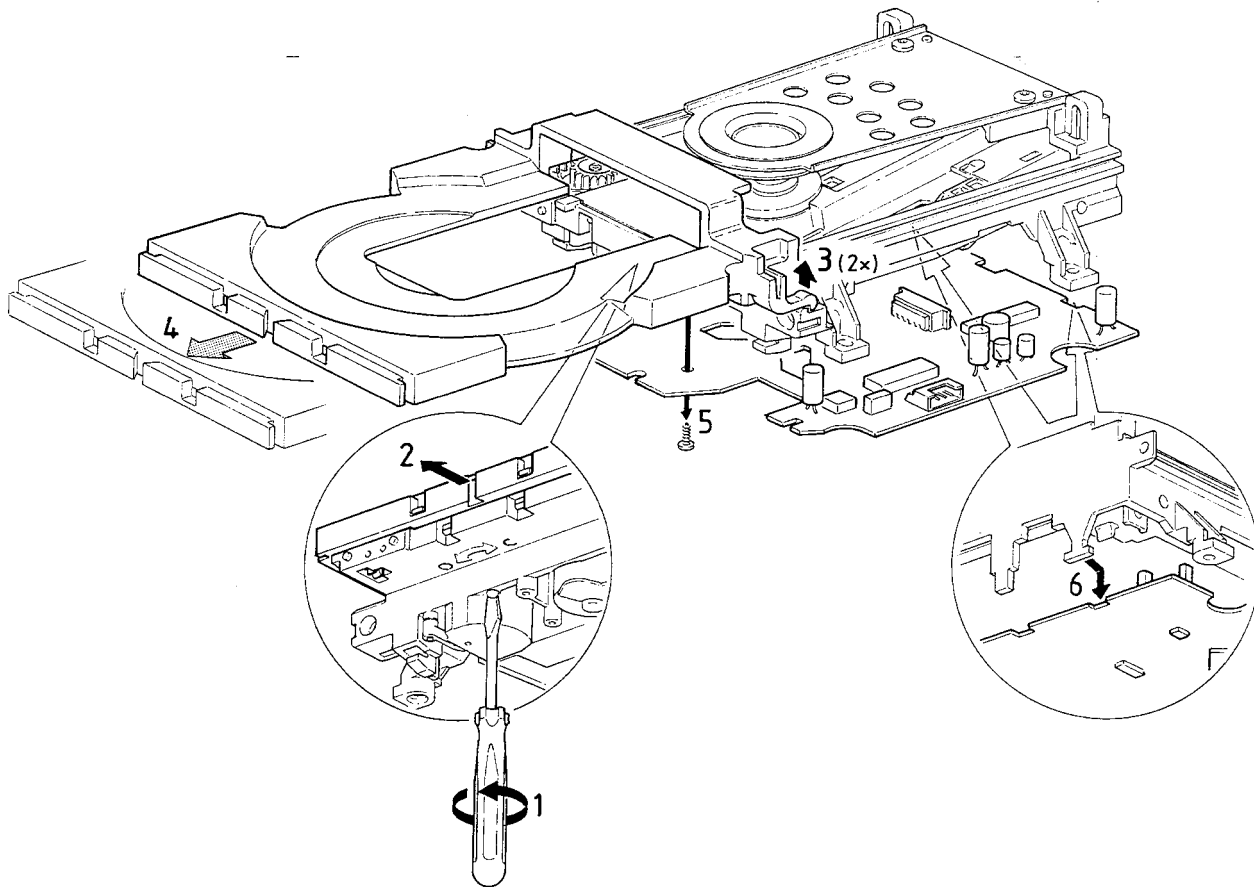

Fig. 1
- a) Press open/close button to open the tray. If the tray doesn't work, use a small screwdriver as shown in Fig. 1 point 1 to move the tray outside. After the first centimetre it is possible to pull the tray out by hand.
- 1) Turn the gear wheel (b) clockwise to its endposition (Use a small screwdriver as shown in Fig. 1 point 1).